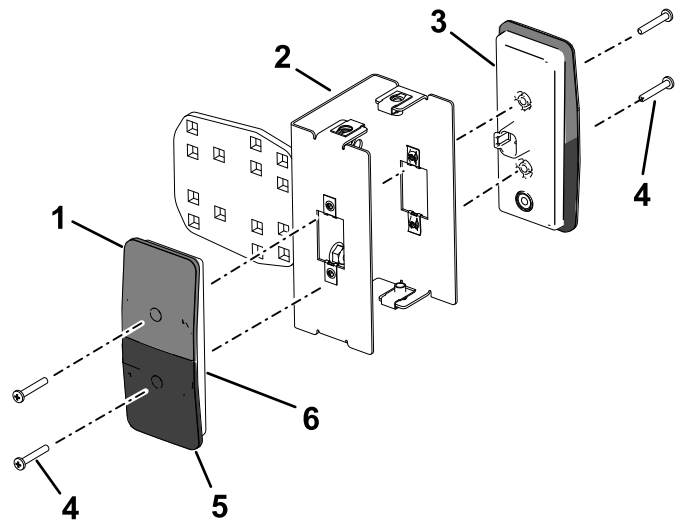

Figure 20
- Align the front and rear lights to the light bracket with the yellow lens positioned as shown in Figure 20.
- Install the front light to the front of the light bracket with 2 screws (#10 x 1-1/4 inches); refer to Figure 20.
- Install the rear light to the light bracket with 2 screws (#10 x 1-1/4 inches); refer to Figure 20.